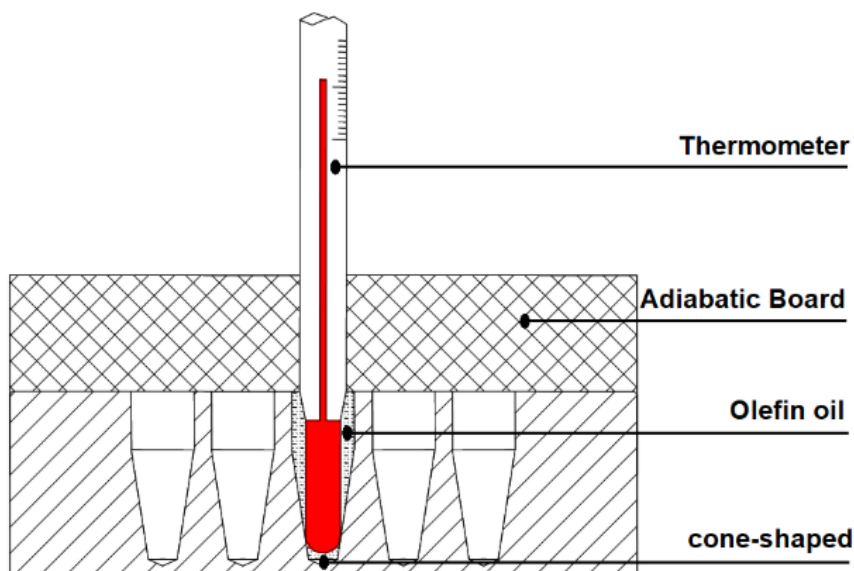

Figure 5
- Inject olefin oil into one of block well, and then put a thermometer into this well (the precision of the thermometer should be 0.1C and the temperature ball should be absolutely immersed into the olefin oil in the block well). Adiabatic material is needed on the block to separate it from the circumstance. (refer to below Figure 5)